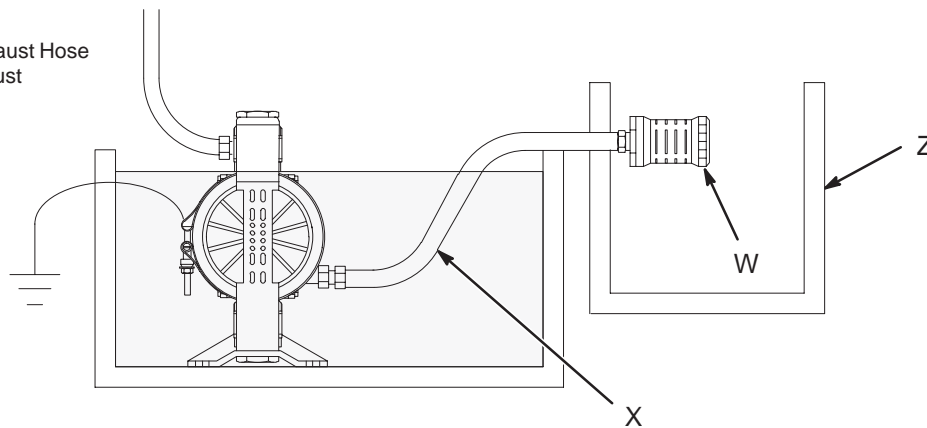

Fig. 8
Diaphragm failure will cause the fluid being pumped to exhaust with the air. Place an appropriate container at the end of the air exhaust line to catch the fluid. See Fig. 8.
1. Remove the muffler (W) from the pump air exhaust port.
2. Install an electrically conductive air exhaust hose (X) and connect the muffler to the other end of the hose. The minimum size for the air exhaust hose is 3/8 in. (10 mm) ID. If a hose longer than 15 ft (4.57 m) is required, use a larger diameter hose. Avoid sharp bends or kinks in the hose.
3. Place a container (Z) at the end of the air exhaust line to catch fluid in case a diaphragm ruptures. See Fig. 8.